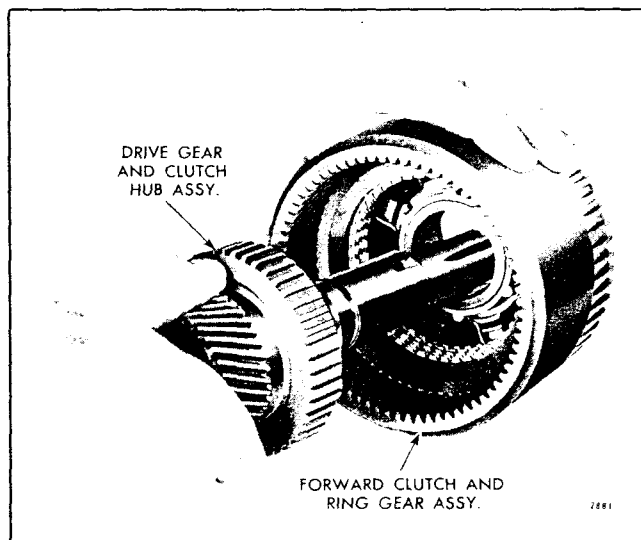

Fig. 65 - Installing Drive Gear and Forward Clutch Hub Assembly into Forward Clutch and Ring Gear Assembly
- c. Place the ring gear assembly on its side on a bench. Lubricate the drive gear shaft and seal rings with engine oil; then, insert the splined end of the drive gear shaft in the rear of the ring gear as shown in Fig. 65. Push the drive gear shaft straight through the bore of the forward clutch piston cylinder until the seal ring enters the bore of the piston cylinder and the teeth of the clutch hub enter the teeth of the inner clutch plates; continue to work the clutch hub through all of the